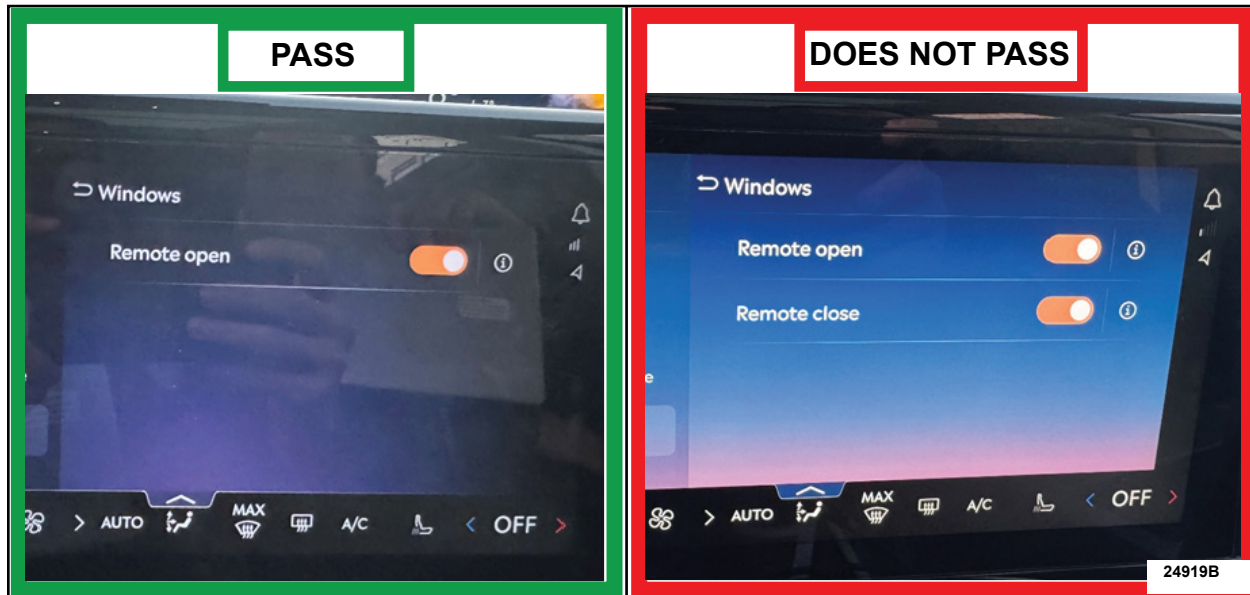

FIGURE 2
21. Select **Windows**. Has the Remote close switch disappeared from the touchscreen? See Figure 2.